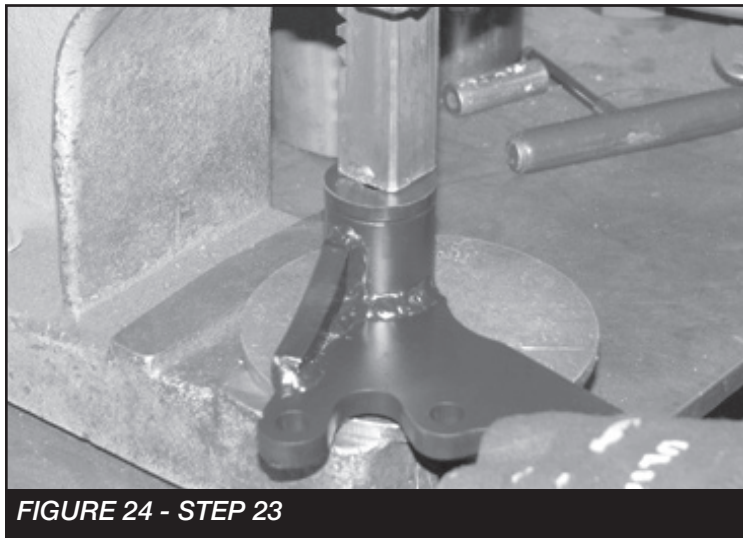

FIGURE 24 - STEP 23
22. Locate the center differential bracket (FT30609). Install two of the Fabtech (FT1020) bushings and one sleeve (FT181) into the barrel on the differential bracket. **SEE FIGURE 24**